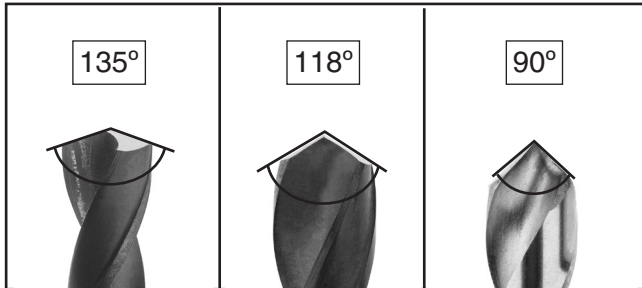
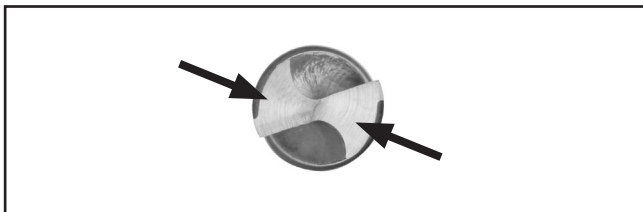

Figure 16. Point angle examples.
Figure 20. No unground surfaces remain on bit after point angle grinding (top view).
The Model H8203 allows you to select a specific point angle based on the type of material to be drilled. For general purpose use, such as wood and soft metal, set the point angle to 118° (see **Figure 16**). Set the point angle at 135° or 140° for drilling harder workpieces such as stainless steel, or 90° - 100° for drilling soft cast iron workpieces.
- If you want to grind the same angle that is already on your bit, match the bit with one shown in **Figure 16**.
—If the point angle is even on both sides of the bit, (**Figure 16**), and no unground material remains, as shown in **Figure 20**, the point angle is correct. Now, go to **Rear Trimming Area** to grind a back angle.